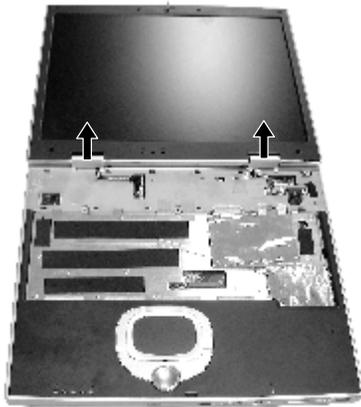

Figure 2-18 Remove the hinge cover
6. Then remove the two hinge covers. (Figure 2-18)